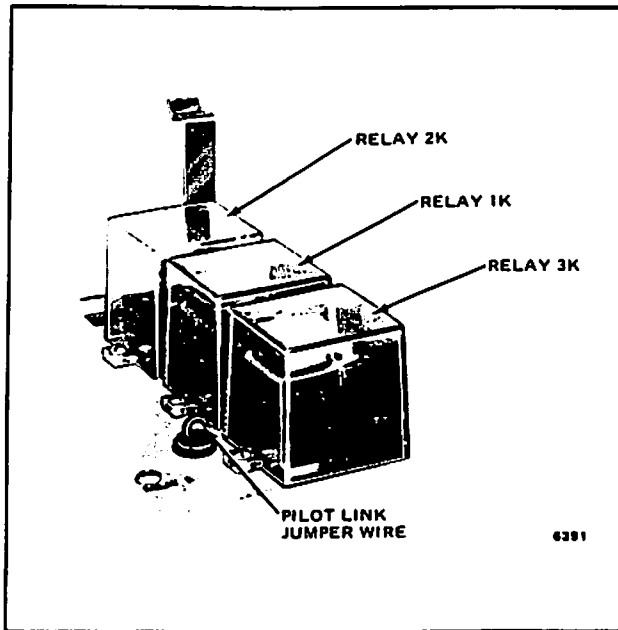

FIG. 11—PILOT LINK JUMPER WIRE.
INSTALLING THE R4138 (FIGS. 11, 12 AND 13)
1. If you are using the R4138 in a continuous (standing) pilot application, clip the pilot link jumper wire (Fig. 11). It must be clipped so that the system can start while the pilot flame is being detected.
2. If you are using the R4138 in a redundant parallel system, clip the pilot link jumper wire (Fig. 11). In a redundant parallel system, either of the R4138's may be removed while the system is running. If it is replaced while the burner is firing, the R4138 cannot start because the detector is sensing flame (safe start check). Clipping the pilot link jumper wire will allow the R4138 to start. If using a C7012E or F Purple Peeper Ultraviolet Flame Detector or a rectifying flame rod with an R7247 Dynamic Self Check Amplifier, all electronic components in the flame detection system will be tested in the first checking cycle.